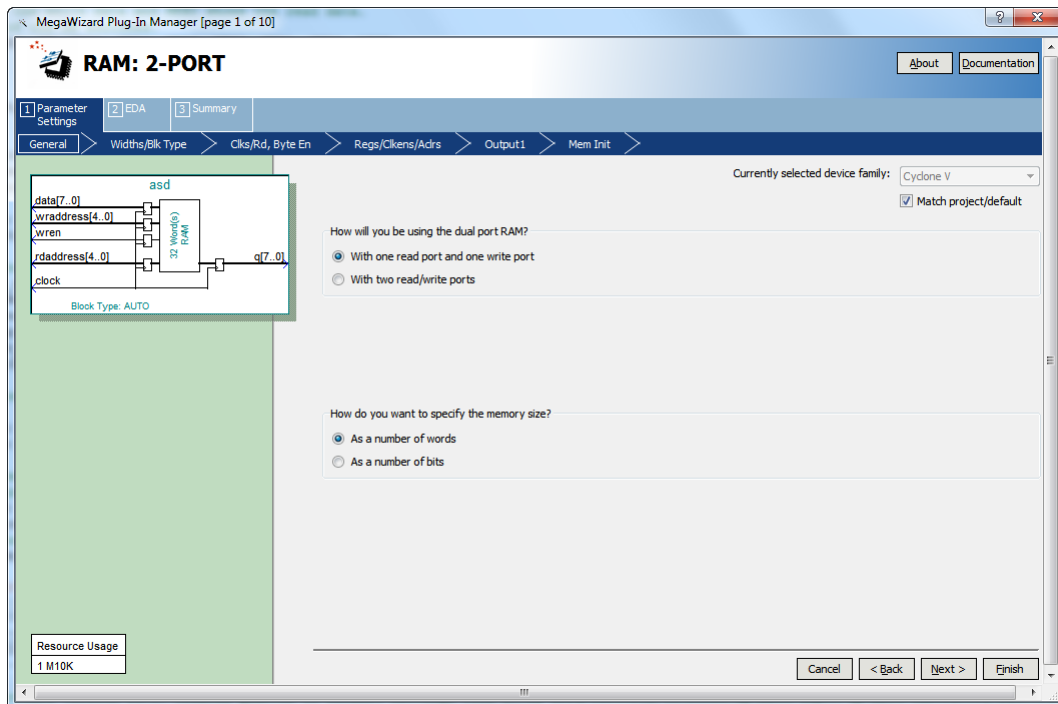

Figure 4: Configuring the two input ports of the RAM.
1. Create a new Quartus II project for your circuit. To generate the desired memory module open the IP Catalog and select the *RAM: 2-PORT* module in the Basic Functions > On Chip Memory category. As shown in Figure 4, choose *With one read port and one write port* in the category called *How will you be using the dual port ram?*